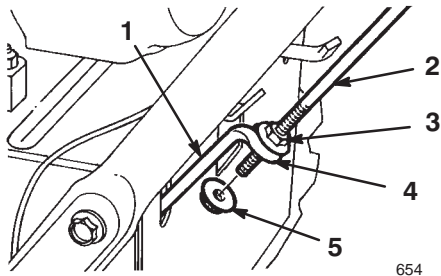

Figure 3
3. Thread a flange nut (not the flange locknut) with the flange down onto the traction rod attached to the left side of the handle assembly (Fig. 3).
4. Position the left side of the handle assembly against the side of the snowthrower and insert the end of the traction rod through the loop in the lower traction rod (Fig. 3).
1. Thread the flange locknut (flange side up) onto the bottom of the traction control rod, below the loop in the lower traction rod (Fig. 3).